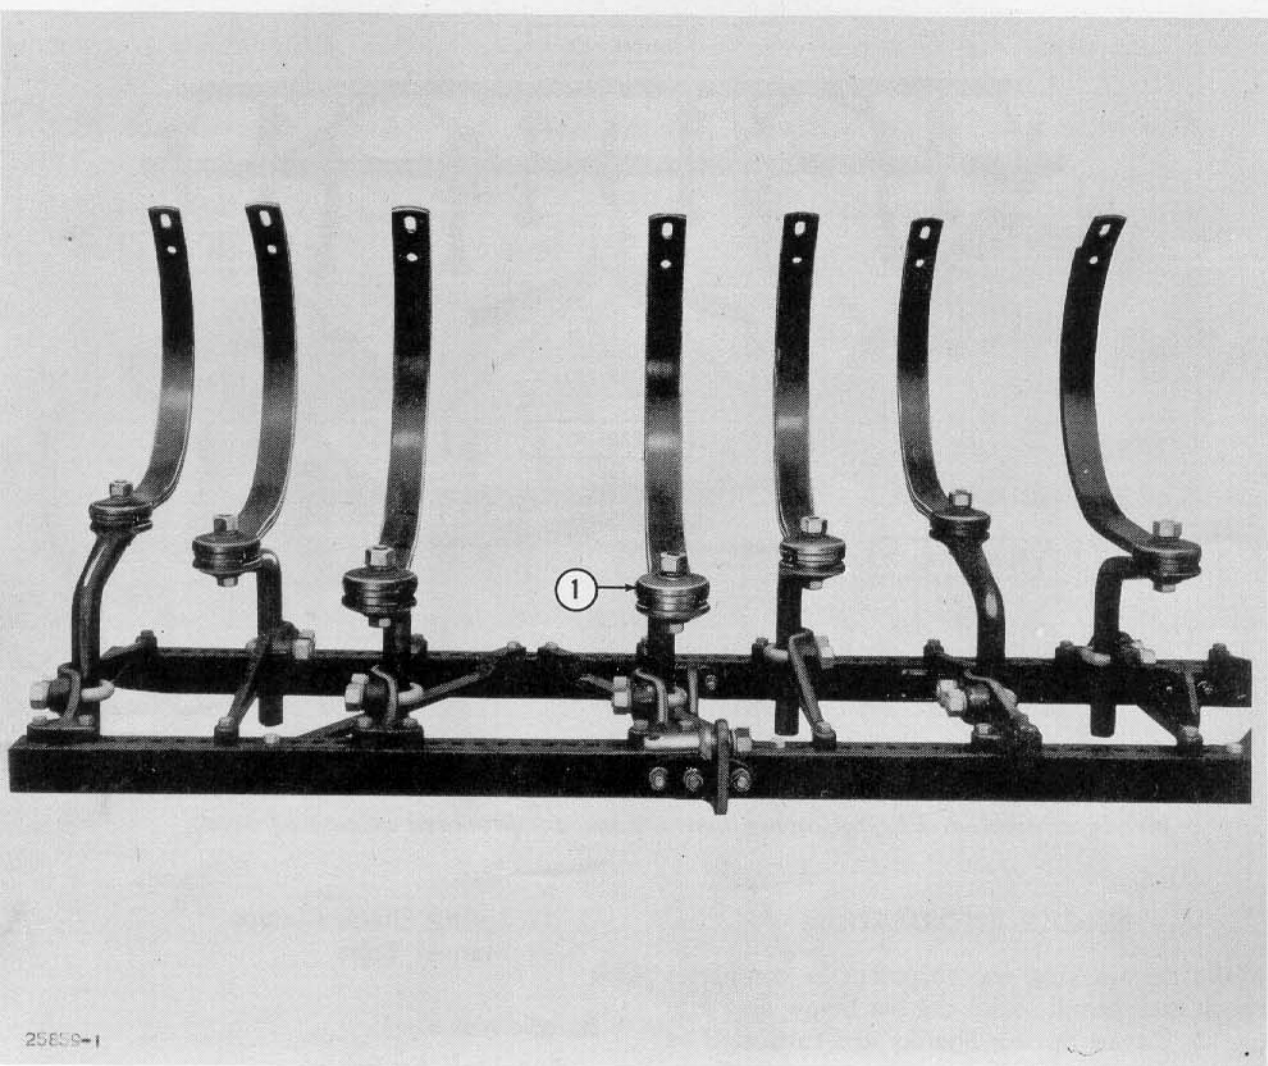

Figure 3
2. Turn the main frame over so that the stems are up and attach the spring shanks to the stems, as shown in Figure 3. The short helper (outer) springs are mounted behind the inner springs with the clamps (1) and bolt provided. See Figure 3.